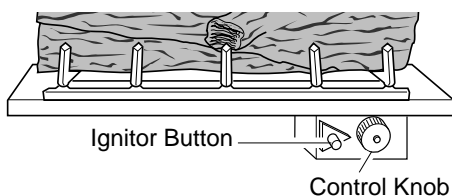

Figure 27 - Control Knob and Ignitor Button Location
3. Turn control knob clockwise to the OFF position (see Figure 27).
4. Wait five (5) minutes to clear out any gas. Then smell for gas, including near the floor. If you smell gas, **STOP!** Follow "B" in the safety information, column 1. If you don't smell gas, go to the next step.
5. Turn control knob counterclockwise to the PILOT position. Press in control knob for five (5) seconds (see Figure 27).